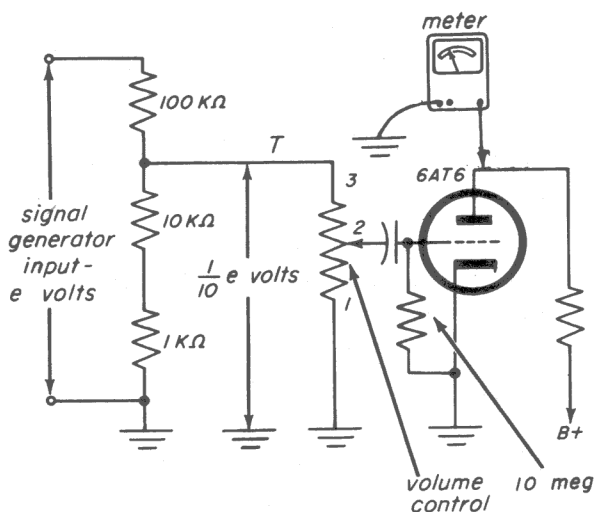

Fig. 26-13
Step 11. Connect the center conductor of the cable to the free end of the 100 k-ohm resistor, and the ground conductor of the cable to the ground end of the 1,000 ohm resistor, as shown in Fig. 26-13.
You have used the arrangement of Fig. 26-13 before. It is a 10:1 resistive voltage divider. Since 10 volts is being applied to the divider, the output is 1 volt. This method is more accurate than trying to measure 1 volt directly with your meter.